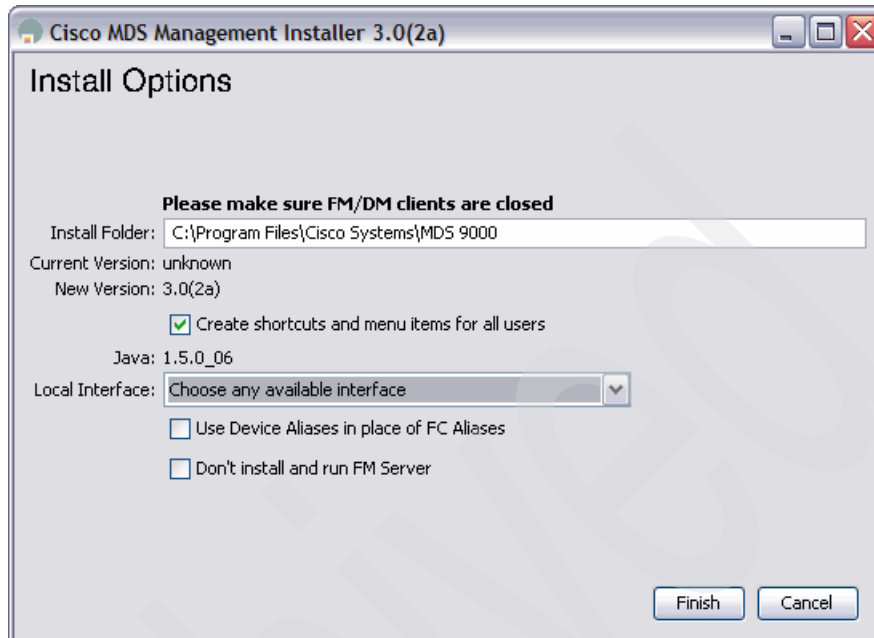

Figure 11-4 Initial FM installation panel
2. Change the defaults if you want. Click **Finish** (Figure 11-4).